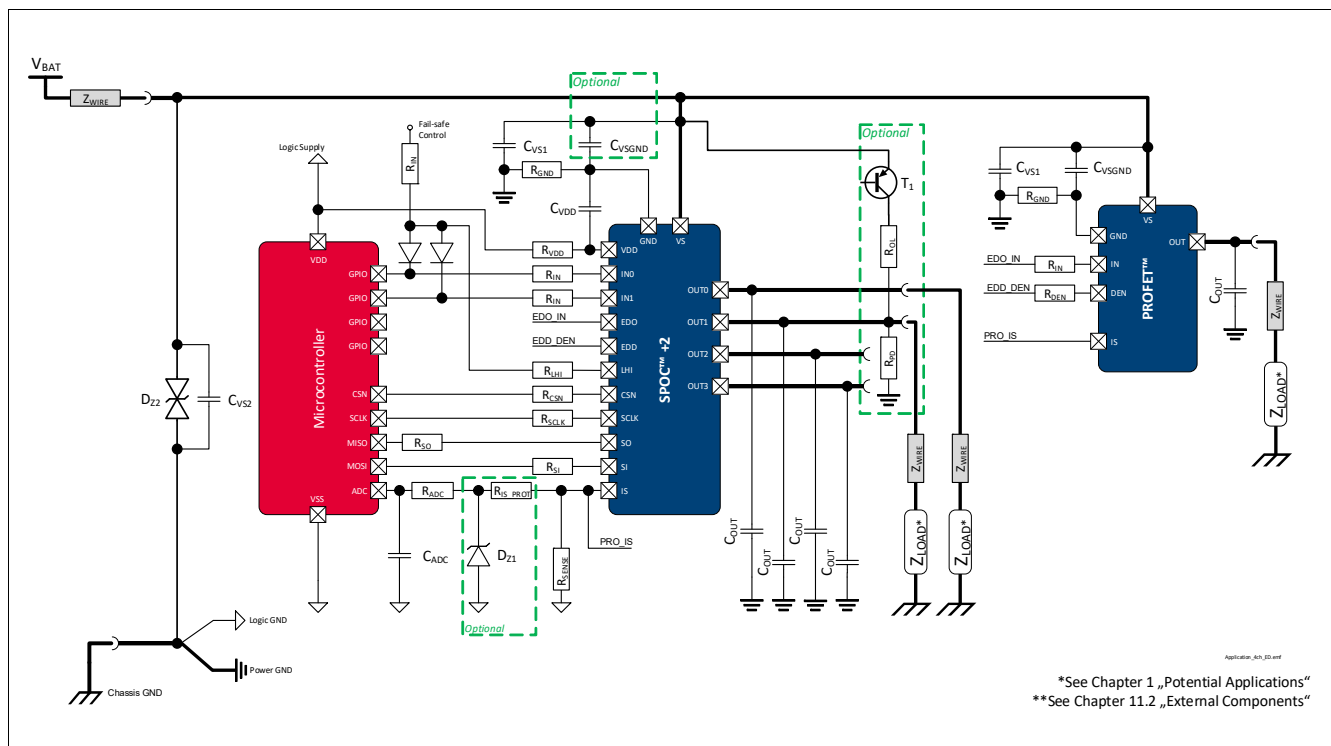

Figure 46 Application Diagram
1.10 , 2021-03-23	General: Datasheet quality improved General: updated (ReverSave™ → ReverseON) General: updated (channel description) Icon “PRO-SIL™ ISO 26262-ready” added to front page Chapter 1 updated (Package description) Chapter 1 updated (Potential Applications updated and Product Validation added) Harmonization of Application Diagram (Figure 1, Figure 46) P_4.4.0.4, P_4.4.0.5 updated (Typ. value and Max. value) P_6.4.0.10 updated (Note or Test Condition) P_6.4.1.5 updated (Max. value updated and footnote added) P_6.5.30.2 added P_9.6.0.6 updated parameter name P_9.6.0.17 added P_9.6.2.11 footnote removed Figure 14 and Figure 16 updated Figure 28 and Figure 29 updated Figure 33 updated Figure 37 and Figure 38 updated Chapter 10.4 typical value for VDD harmonized Chapter 11 updated (figures and descriptions)